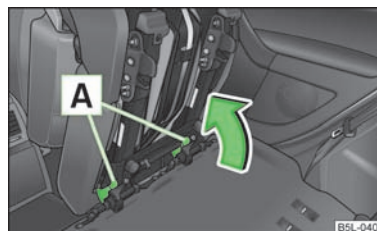

Fig. 52
- Lock the folded forward seat by pressing the seat locks **A** in the direction of arrow » Fig. 52.
- If the seat is removed, first of all position it on the guide and lock the seat » Fig. 52. Pull the seat upwards to ensure that the seat is locked correctly. ▶